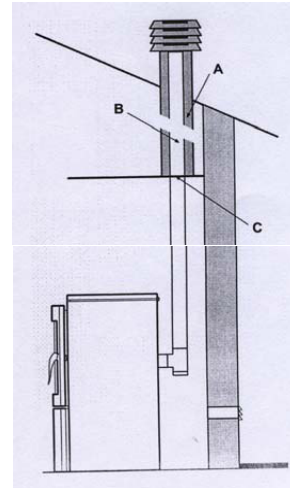

Figure 2
- Avoid any contact with easily combustible material (such as wooden beams), and in any case these should be insulated with fire resistant material (see Figure 2).